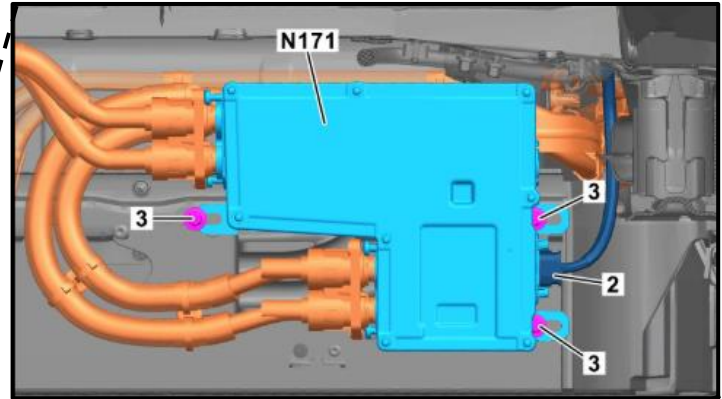
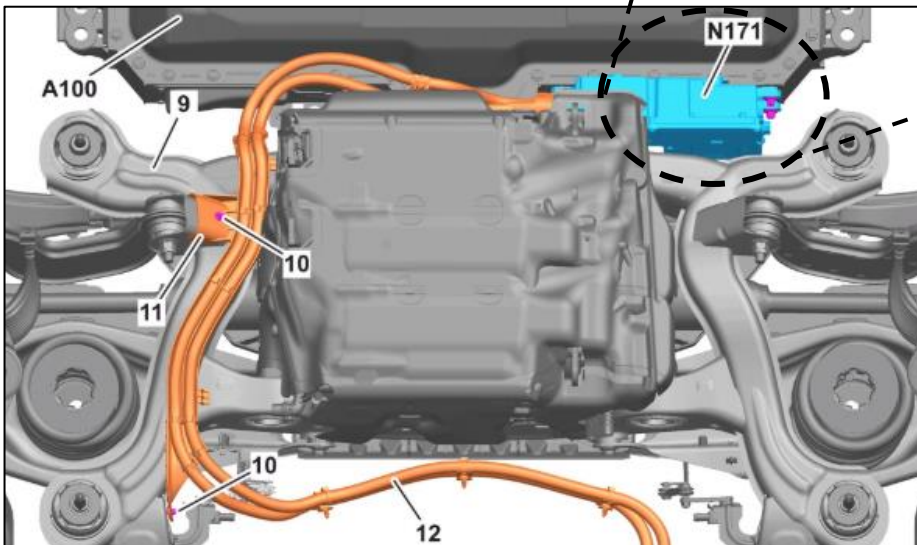

Figure 6
Figure 7
- Remove screws (Figure 7, 10), and guide electrical line duct (Figure 7, 11) out of rear axle.
- Remove HV harness of HV disconnect device (Figure 6, N171) from HV battery (A100).
- Remove screws (Figure 6, 3) and remove HV disconnect device (Figure 7, N171) together with HV harness (Figure 7, 12).